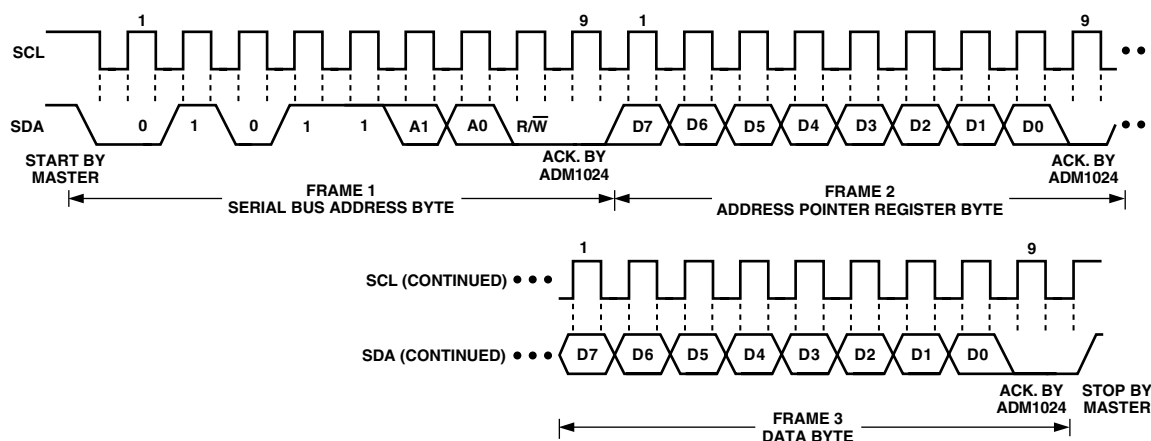

Figure 2a. Writing a Register Address to the Address Pointer Register, then Writing Data to the Selected Register
To write data to one of the device data registers or read data from it, the Address Pointer Register must be set so that the correct data register is addressed, then data can be written into that register or read from it. The first byte of a write operation always contains an address that is stored in the Address Pointer Register. If data is to be written to the device, the write operation contains a second data byte that is written to the register selected by the address pointer register. This is illustrated in Figure 2a. The device address is sent over the bus followed by $R/\overline{W}$ set to 0. This is followed by two data bytes. The first data byte is the address of the internal data register to be written to, which is stored in the Address Pointer Register. The second data byte is the data to be written to the internal data register.
2. In Figures 2a to 2c, the serial bus address is shown as the default value 01011(A1)(A0), where A1 and A0 are set by the three-state ADD pin.